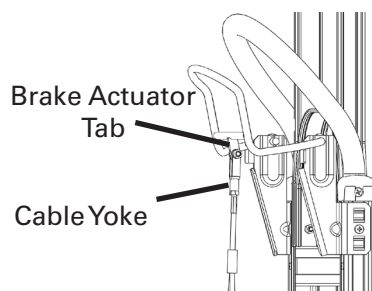

Figure 9
2. Turn the yoke on the top of the cable clockwise (moving down the cable's threaded stud) until the holes in the yoke are aligned with the holes in the brake handle actuator tab while pulling up on the cable (see Figure 9). Then loosen the yoke by turning it counter-clockwise several turns.